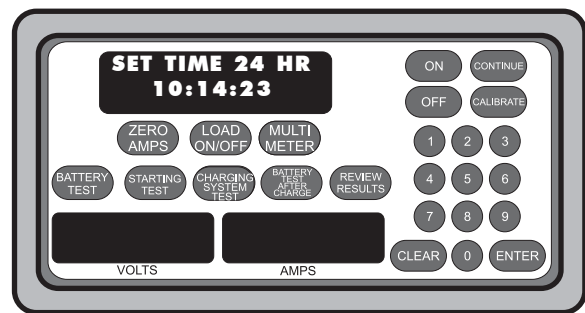

Figure 27
3. The display reads "SET TIME 24HR xx:xx:xx" (see Figure 27). Use the numeric keypad to enter the correct time, then press [ENTER].